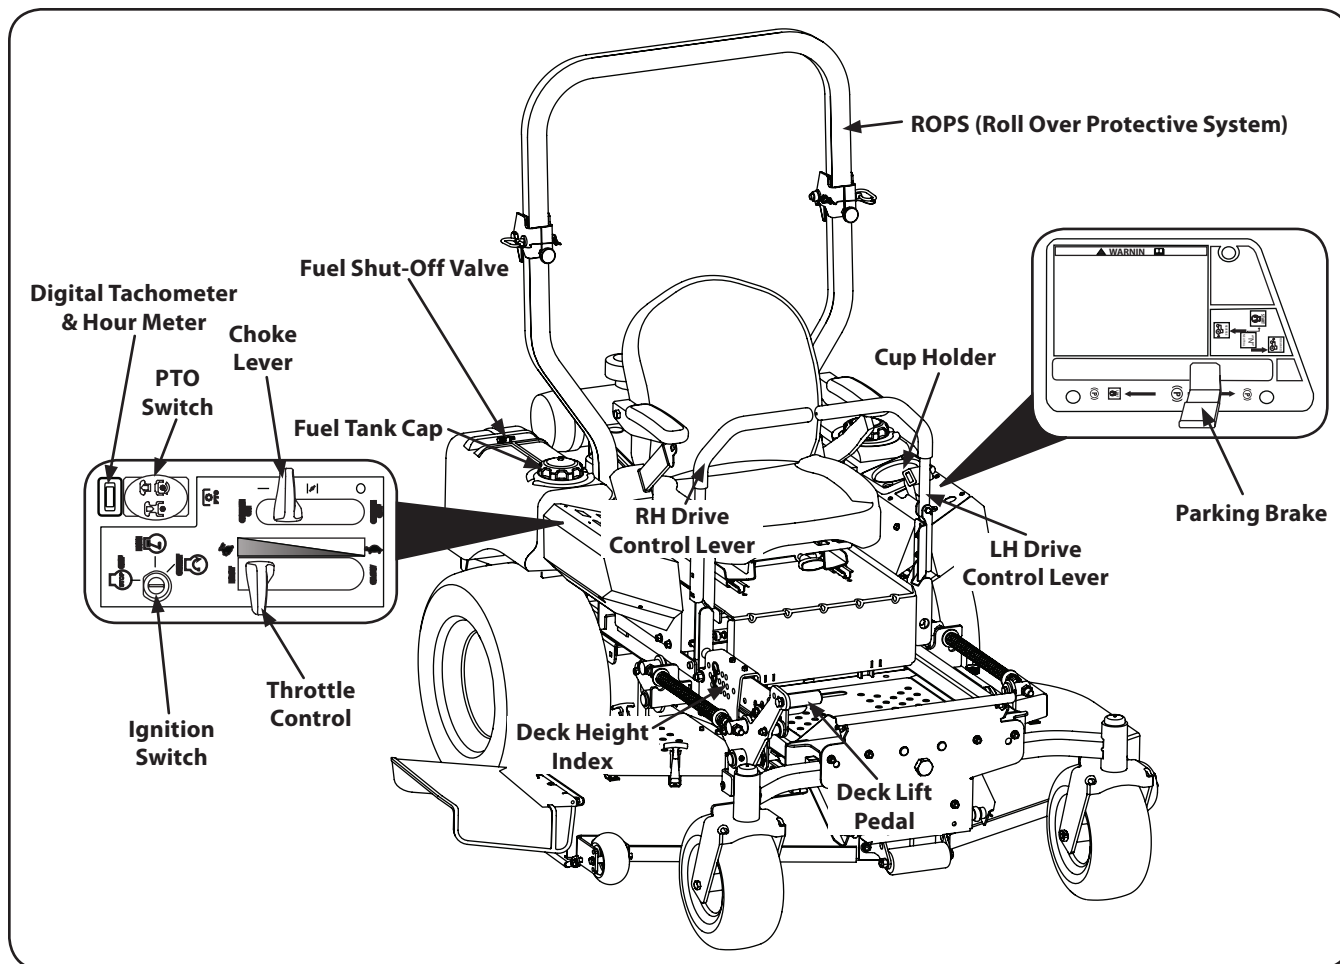

**Figure 3-8**
1. Remove the plastic cover, if present, from the positive battery terminal and attach the red cable to the positive battery terminal (+) with the bolt and hex nut. See Fig. 3-8.
2. Remove the plastic cover, if present, from the negative battery terminal and attach the black cable to the negative battery terminal (-) with the bolt and hex nut. See Fig. 3-8.